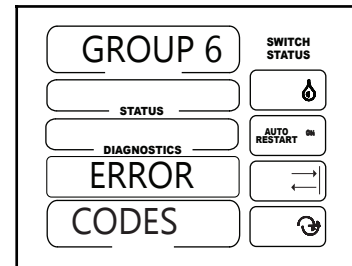

Figure 43-1
2. Setup GROUP 6 will be shown in the display screen. See figure 43-1.